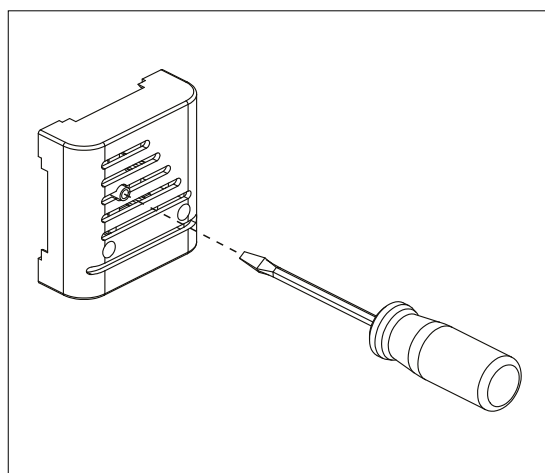

Figure 16. Reactivation of the overheat protector
- The overheat protector of the heater has tripped: **the cause of the overheat protection tripping must be determined!** The overheat protector can be reactivated by pressing the temperature sensor (Figure 16).